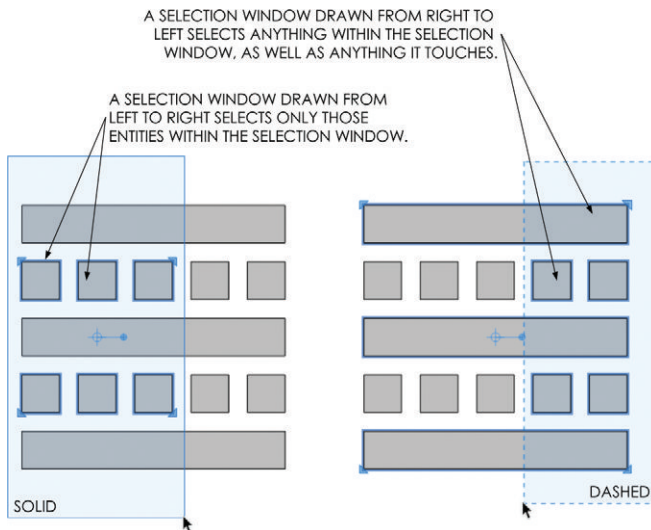

Figure 12.22 Selection windows
- ☑ Click and drag to select entities with a Selection window (Figure 12.22).